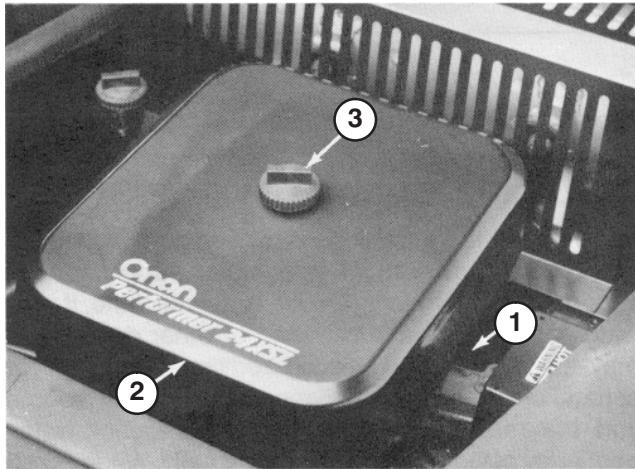

Figure 23
1. Remove the knob and cover from the air cleaner (Fig. 23).